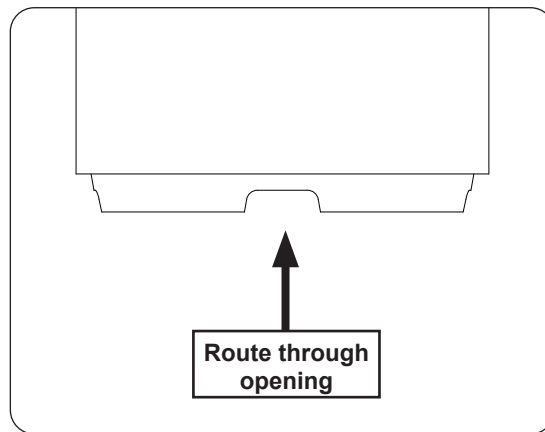

Fig. 2-1 Route hose supply into table
1. Route the regulator hose assembly (that was previously connected to the fire unit valve assembly) to the tank table and through the bottom opening (see Fig. 2-1).